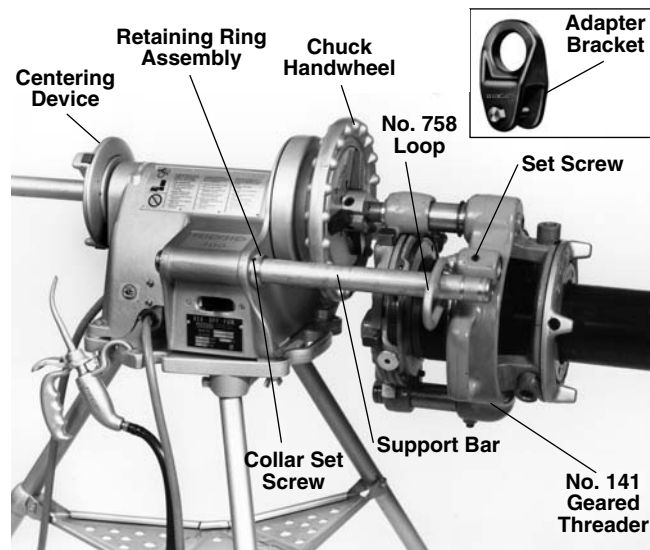

Figure 19 – No. 141 Geared Threader Close-Coupled to Power Drive
4. 141 Geared Threaders (Figure 19) – Pull out support bar on switch side and secure retaining ring against Power Drive body with set screws.
5. 141 Geared Threaders (Figure 19) – Slip No. 758 Loop over support bar and secure to gear case loop with set screw.
NOTE! Use No. E-3675 Adapter Bracket (Figure 19) in place of No. 758 Loop on all 4P Threaders without loop hole on gear case.